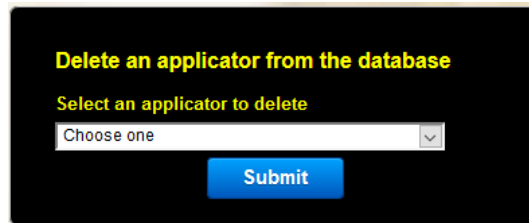

Fig. 27
1. This form allows you to delete and assistant grower. (See fig. 27)